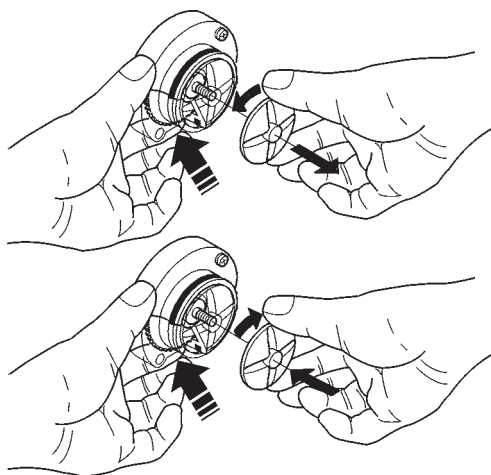

Fig. 10
- in order to remove the wheels, block the disk fitted on the mixer shaft with a finger (see Fig. 10);